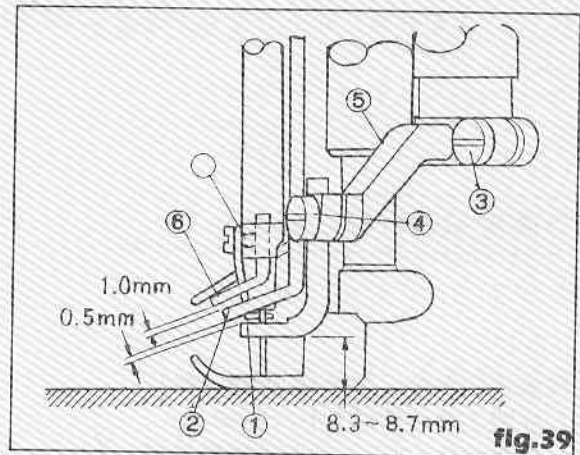

fig.39
There is a clearance about 0.5mm between the spreader hooking point and the left needle when the spreader passes the left needle. (fig 39)
When the needle bar is in its lowest position, the part (a) of the thread guide should be set just below the eye of the guide (6). And the clearance between the thread guide (2) and the spreader (1) should be set to 0.5mm. (fig 39)
When the needle bar moves to its lowest position, the clearance should be 1.0mm between the spreader thread guide (2) and the thread guide (6). The concavity of the spreader and the thread eye should face each other. (fig 39)